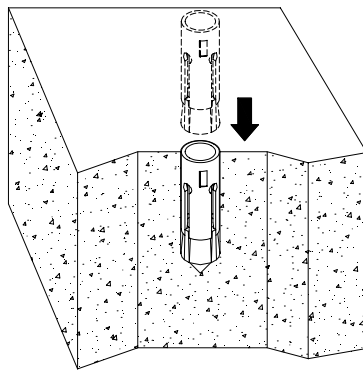

Figure 2-8 Installing an expansion bolt
- 5) Feed the tube and the nut into the hole vertically and make sure that the guiding rib on the nut meets the guiding slot of the tube, as shown in Figure 2-8.